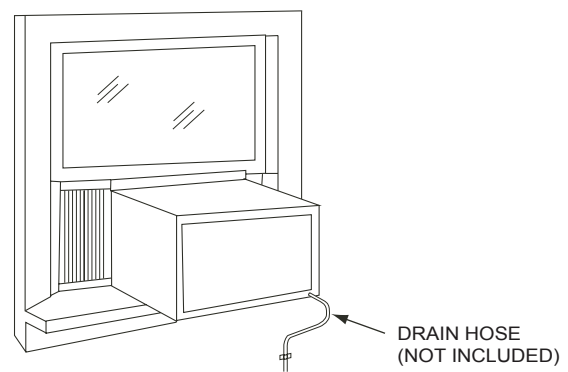

FIGURE 17 — FIELD-SUPPLIED DRAIN HOSE
23. The unit was designed to evaporate condensation under normal conditions. Under extreme humidity conditions, excess condensation may cause the basepan to overflow to the outside of the unit. A field-supplied drain hose may be installed at the drain plug if required to route condensate away from the unit. See Fig. 17.